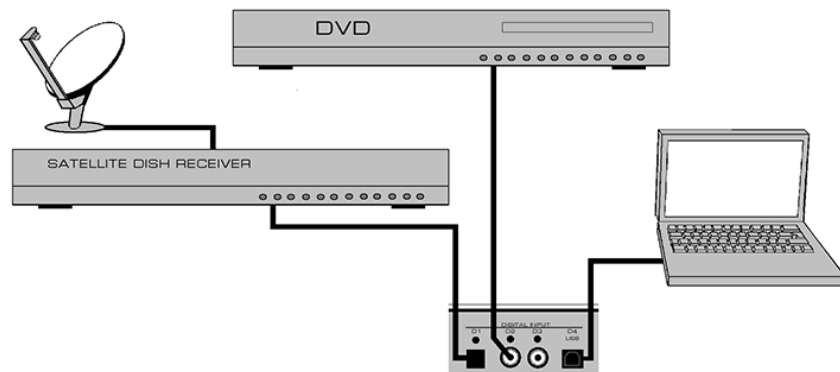

Figure 2: MOON 340i X Optional Digital Inputs – connection examples
There are two (2) different settings available for setting the resistive load; 100Ω and 47kΩ which are represented by jumper sockets R12 for the left channel and jumper socket R29 for the right channel (refer to figure 2 – section labeled “LOADING”). The factory default setting is 47kΩ, therefore both jumpers will be found in each of the two left most sockets.
There are two (2) different settings available for the capacitive load; 0pF and 100pF which are represented by jumper sockets C9 for the left channel and jumper sockets C17 for the right channel (refer to figure 2 – section labeled “LOADING”). The factory default setting is 100pF for a moving magnet cartridge, therefore both jumpers will be found in each of the two right most sockets.
There are two (2) different settings available for gain level. They are 40dB for MM cartridges and 60dB for MC cartridges, which are represented by jumper socket J18 for the left channel and jumper socket J24 for the right channel (refer to figure 2 – section labeled “GAIN”). The factory default setting is for a MM cartridge, therefore both jumpers will be found in each of the two right most sockets labeled MM; ***It is highly recommended that you do not use the jumpers labeled MC for an MM cartridge as this will overload the 340i X.*** When using a MC cartridge, you should insert the supplied jumpers into each of the two left-most sockets labeled MC.
The rear panel will look similar to Figure 2 (above). There are four (4) pairs of single-ended analog inputs on RCA connectors labeled CD, A1, A2 and A3/P. The RCA input and output connectors on the rear panel have been color coded: 'white' for the left channel and 'red' for the right channel. If your **MOON 340i X** is equipped with the *optional phono section*, the input labeled 'A3/P' must be used to connect your turntable interconnect leads to this integrated amplifier. If you don't have the optional phono section installed, then this input can be used in the same way as the CD, A1 and A2 inputs.